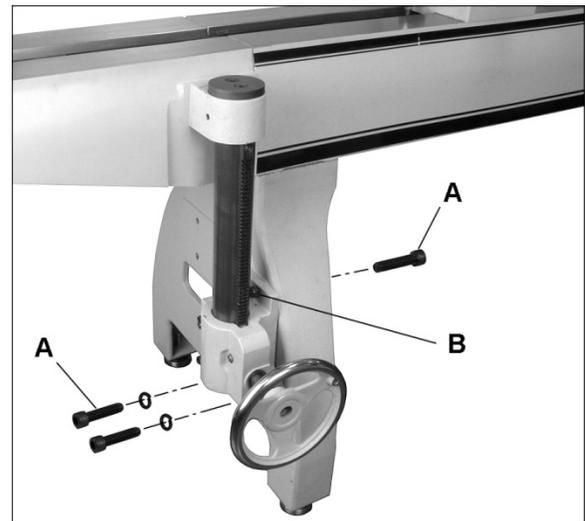

Figure 17
4. Install elevating system (Figure 17) to bed extension with four 3/8" screws and washers, and to lathe leg with three 1/2" screws and washers (A, Figure 17). Note that top screw is installed from *inside* the leg and secured with the nylon nut (B). Refer to exploded view, *section 17.5.1* if clarification is needed.